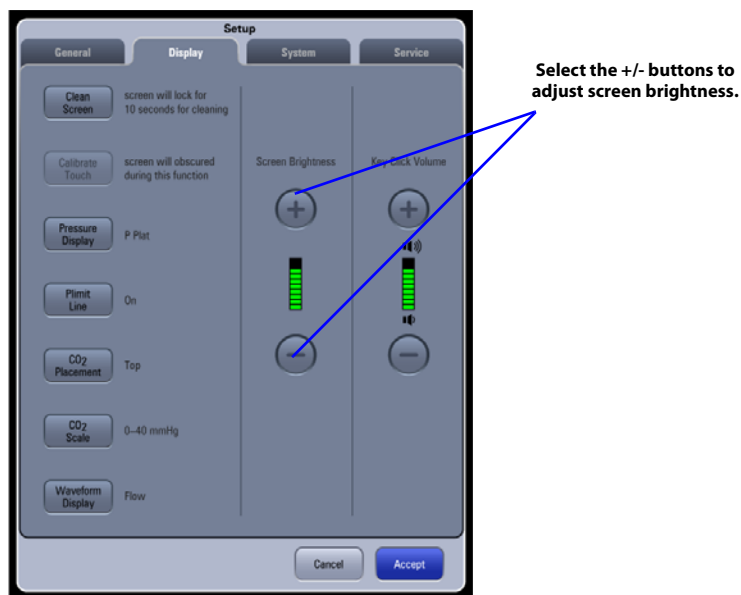

FIGURE 3-39 A5 Display Tab> Screen Brightness Area
The **Display** tab provides access to screen cleaning, screen calibration, pressure parameter display, CO₂ waveform placement, gas scales, waveform display, screen brightness and key click volume (see FIGURE 3-39).
1. Select **Setup** softkey > **Display** tab (see FIGURE 3-39).